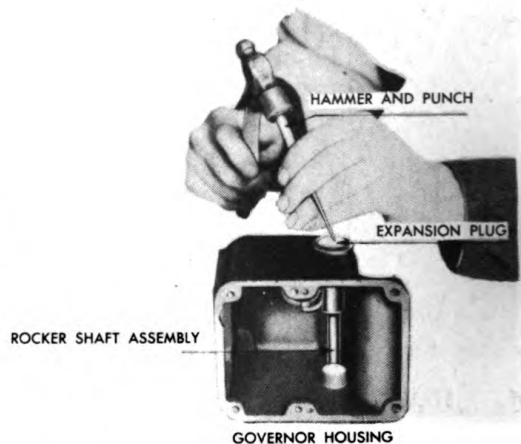

Figure 215. Removing Expansion Plug (Welch Plug).
4. Knock out the welch, or expansion, plug at the end of the rocker shaft in the governor housing, as shown in Figure 215.